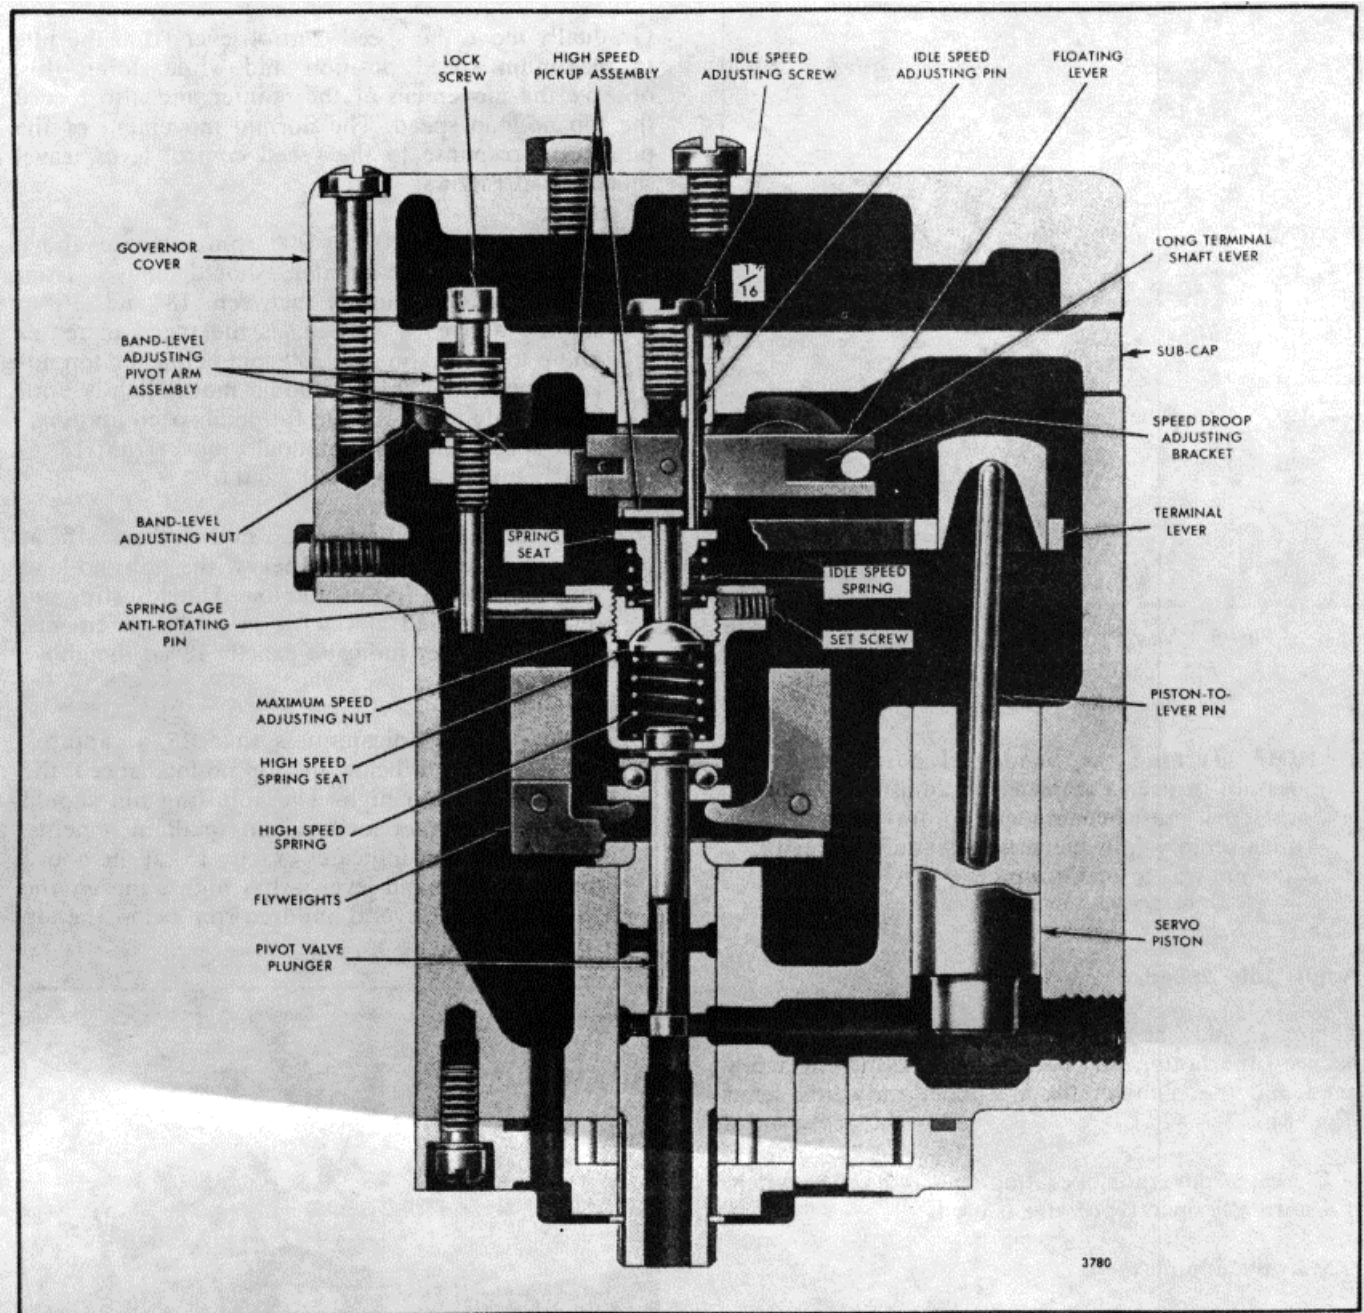

Fig. 8. - Cross-Section of Limiting Speed Hydraulic Governor for 16V Engine
2. With a long thin screw driver, pry one of the flyweights outward with a light force (Figs. 8 and 9). It should reach a vertical position. If not, proceed with Step 3.
- Loosen the band-level pivot arm lock screw and turn the band-level adjusting nut clockwise to raise the band-level or counterclockwise to lower the band-level (Figs. 8 and 10). Tighten the lock screw to draw the pivot arm assembly in place. Then check the adjustment as described in Step 2. Readjust the band-level, if necessary.
There should be approximately 1/16" clearance between the bottom of the idle speed adjusting screw head and the plunger directly under the screw head (Fig. 8).
4. Hold the speed control lever in the idle position. Then turn the idle speed adjusting screw in or out until the desired idle speed is obtained (Figs. 8 and 10).